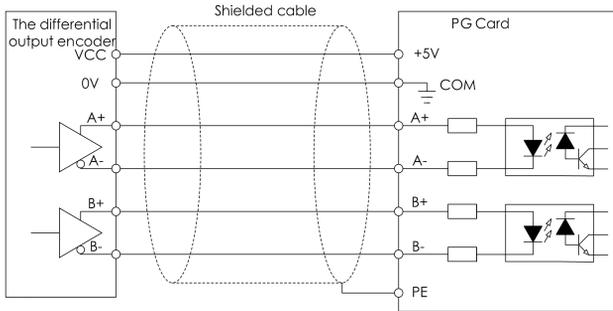

Fig. C-4 Connection schematic diagram of EXC-PG01 and the differential output encoder
- 2) Follow Figure C-4、C-5、C-6 to connect PG card and encoder